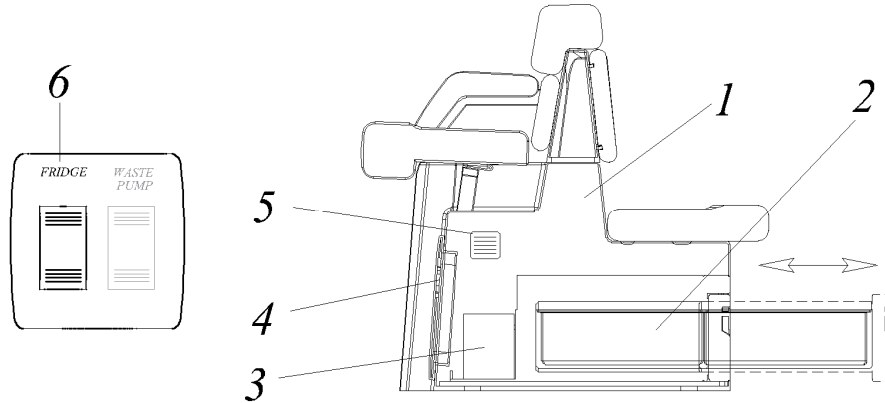

Fig.11
Your boat is equipped with an electric fridge ISOTHERM DR30 (or similar) (Fig.11) which installed in the helm seat. Before using the fridge, carefully study the owner's manual of your fridge (included in the boat package).
We recommend using a separate battery to power the fridge. The fridge can discharge your battery. To power the fridge, turn ON the appropriate switch (marked as «HOUSE») on the panel with battery isolation switches (Fig.2b, (28)). Turn ON the switch (Fig.11, (6)) located in the console cabin.